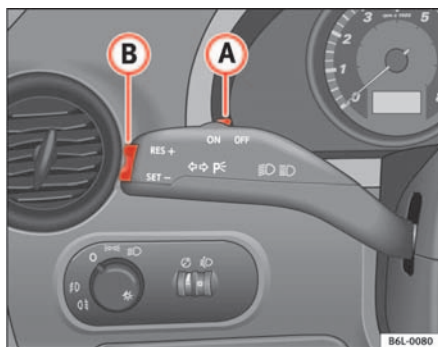

Fig. 100 Turn signal and main beam lever: switch and rocker switch for CCS
- Press the upper part **RES+** of the rocker switch ⇒ fig. 100 **A** to increase the speed. The vehicle will continue to accelerate for as long as you keep the rocker switch pressed. When you release the switch, the new speed is stored.
Control of the set speed is switched off if you reduce speed by depressing the brake pedal. You can reactivate the control by pressing once on the upper part of the rocker switch **RES+** ⇒ fig. 100 **A**.